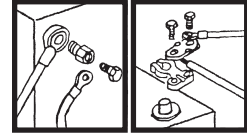

Fig. 1
- a. When attaching cables to battery with side post terminals, use M.P. Adaptor Part #21976 and attach as shown in Figure 1.
- B. Attach fixed end of Wing Cylinders (15) to the A-Frame with a 5/8-11 x 5" bolt (24) and 5/8-11 locknut (26) on each side.
- C. Attach live end of Wing Cylinder rod (15) to the Wings using a 5/8-11 x 5" bolt (24) and 5/8-11 locknut (26) on each side.
- D. Attach Wing Cylinders hoses by removing the caps from the hoses (8 & 12) and plugs from the Double Acting Ram (15). (Do not discard they can be used for servicing the unit). Prior to hose installation, realign both 90 degree elbows. Attach the left wing 1/4" hose (8) to the rod or live end of left ram (15). Attach the left wing 3/8" hose (12) to the fixed end of left ram (15). Attach the right wing 1/4" hose (8) to the rod or live end of right ram (15). Attach the right wing 3/8" hose (12) to the fixed end of right ram (15). As shown in Figure 1.